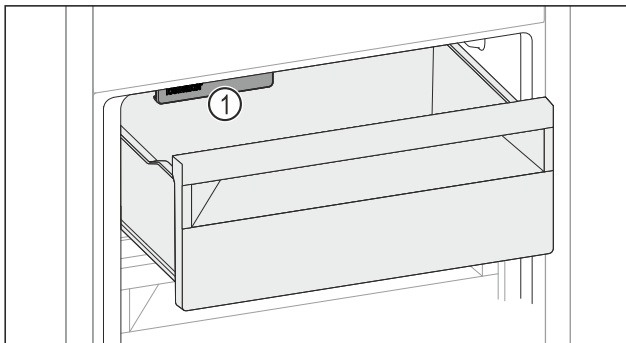

Fig. 108
- ▶ Pay attention to the IceMaker Fig. 108 (1).